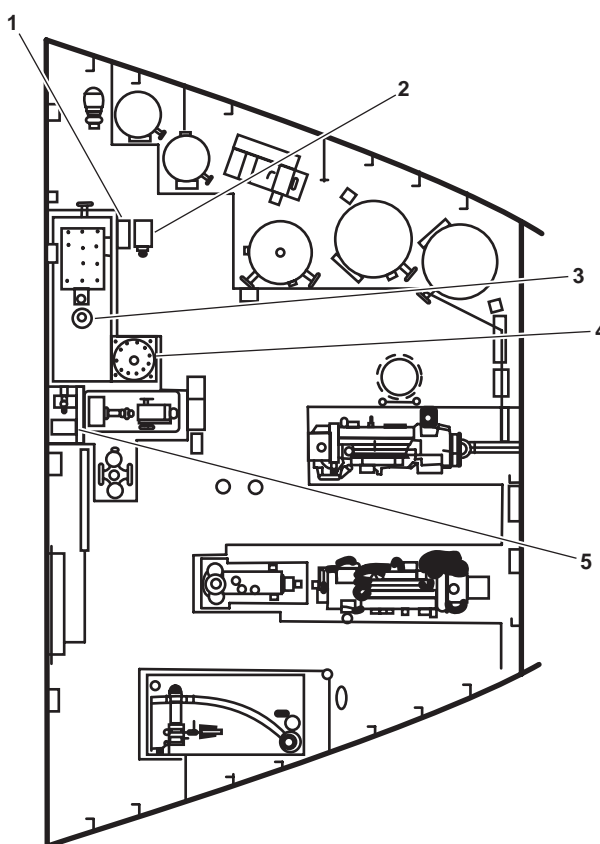

Figure 1. Major MSD Components
1. Chlorinator (figure 1, item 1). The tablet chlorinator is mounted between the spillover outlet of the media tank and the inlet to the wet well. This is a demand type chlorination system with no moving parts.
2. Discharge Pump (figure 1, item 2). The discharge pump automatically expels treated water overboard as the water level in the wet well rises.
3. Media Tank (figure 1, item 3). The tank stores and treats all waste matter produced aboard the vessel. Biological oxidation of sewage organics occurs within the tank as air lifts circulate the sewage and transfer oxygen into the water.
4. Wet Well (figure 1, item 4). The wet well is an independent freestanding tank located forward of the media tank. The wet well permits adequate disinfection time for media tank effluent during peak periods.
5. Blower Assembly (figure 1, item 5). The aeration blower is a rotary lobe positive displacement blower. The blower assembly is comprised of a blower, motor, V-Belt drive, drive guard, inlet silencer, relief valve, pressure gauge, and check valve.